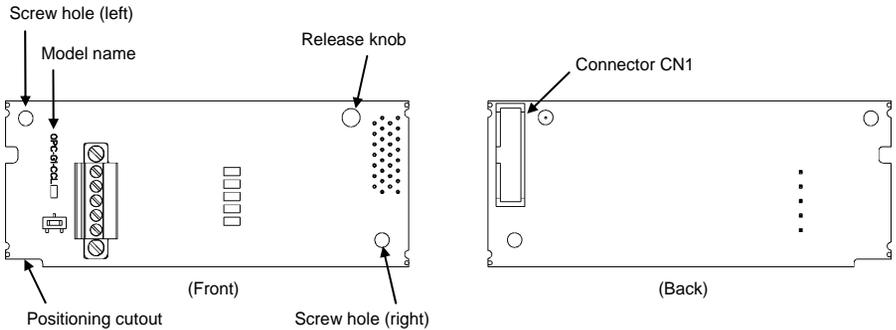

Figure 1.1 Names of Parts on CC-Link Communications Card
- (1) A communications card, two screws (M3 × 8), and the CC-Link Communications Card Instruction Manual (this manual) are contained in the package.
- (2) The communications card is not damaged during transportation--no defective parts, dents or warps.
- (3) The model name "OPC-G1-CCL" is printed on the communications card. (See Figure 1.1.)
- (2) Insert connector CN1 on the back of the communications card (Figure 1.1) into the A-port (CN4) on the inverter's control PCB. Then secure the communications card with the two screws that come with the communications card. (Figure 3.3)
**Note** Check that the positioning cutout (shown in Figure 1.1) is fitted on the tab (① in Figure 3.2) and connector CN1 is fully inserted (② in Figure 3.2). Figure 3.3 shows the communications card correctly mounted.
- (3) Perform wiring on the communications card.